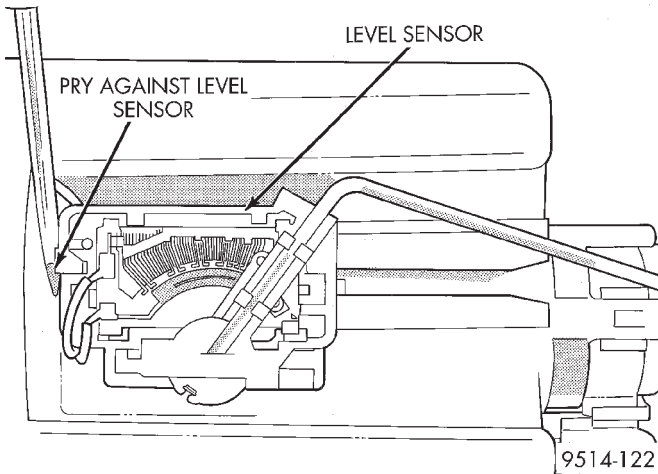

Fig. 23 Loosening Level Sensor
(3) Insert a screwdriver between the fuel pump module and the top of the level sensor housing (Fig. 23). Push level sensor down slightly.